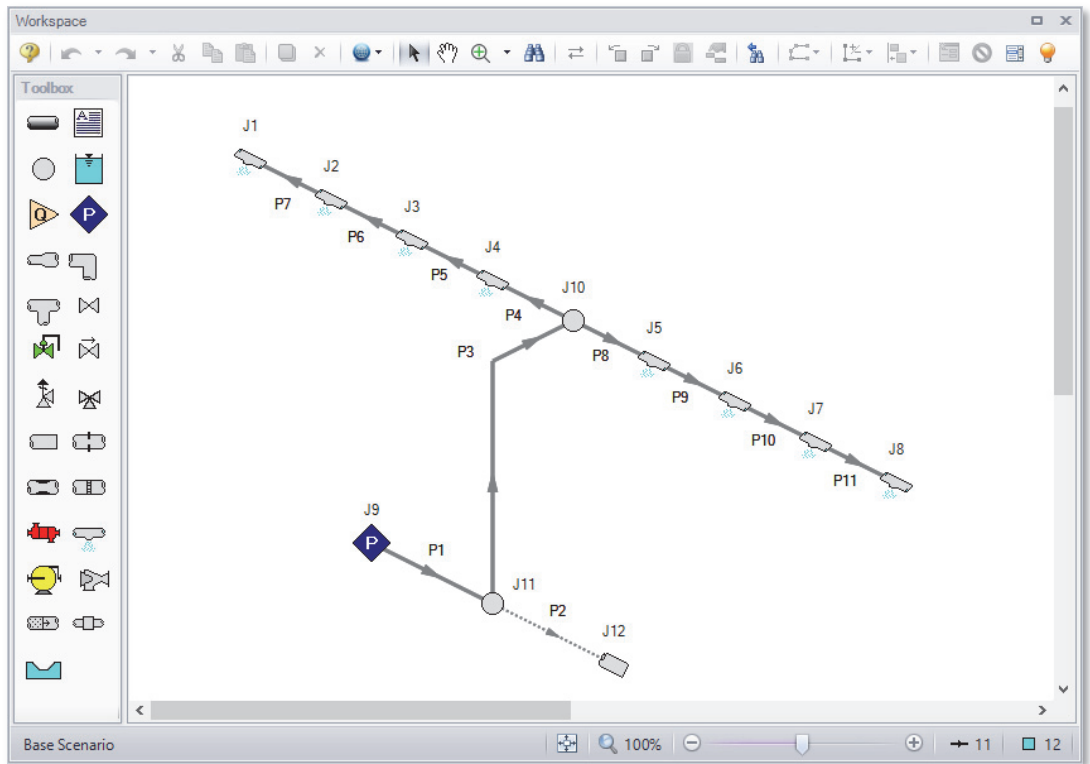

Figure 3.12 Isometric spray discharge system with the grid not shown
15. The grid can be shown or turned off in the Arrange menu as shown in Figure 3.12.